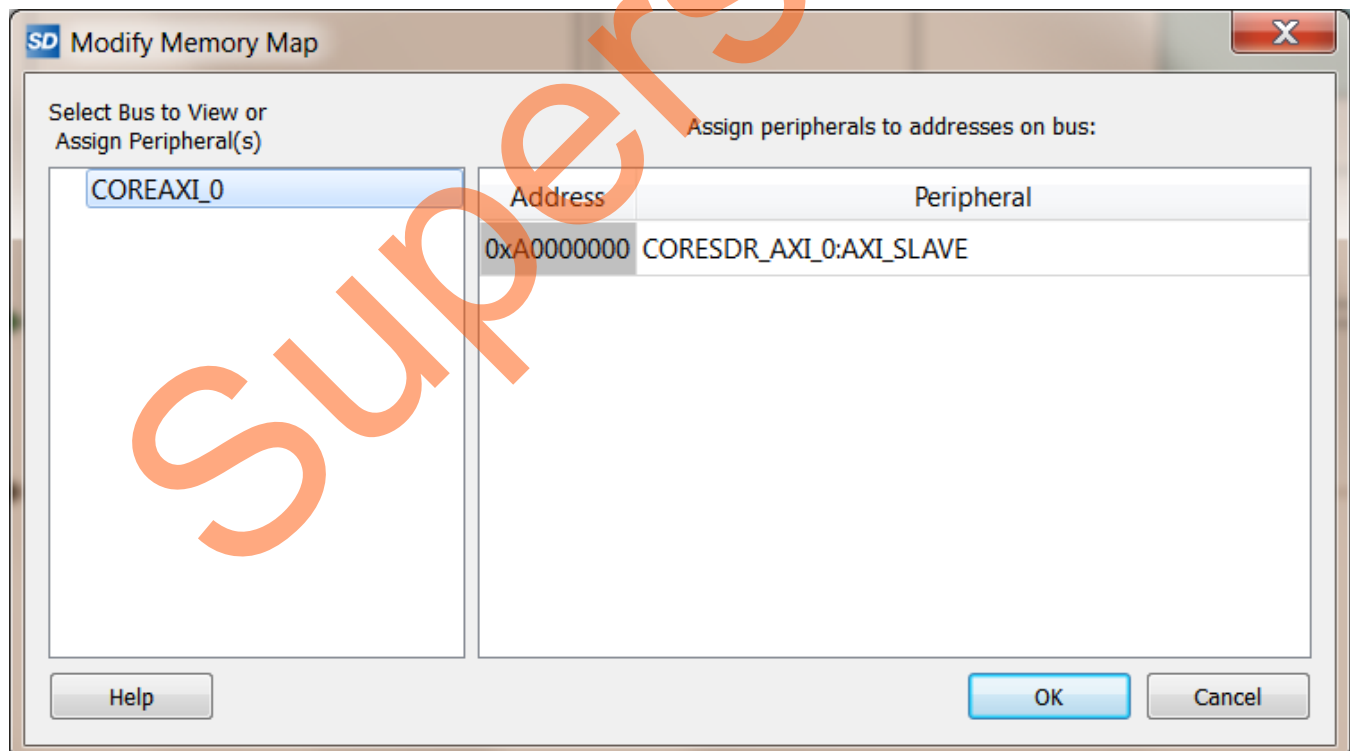

Figure 26. CORESDR_AXI_0 Memory Address
- After generation, you can see the Memory Map for the CORESDR_AXI_0 component. Right-click the **Access_EXT_SDRAM** SmartDesign window and select **Modify Memory Map**. Figure 26 shows the resultant memory map. The starting address of the MDDR Space 0 is 0xa0000000 in the Cortex-M3 processor address space.